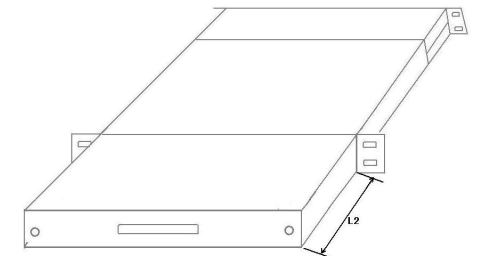

Figure 2
2. See Figure 2, when the pull-out monitor is pulled out horizontally, its extracted length L2 is 330mm.